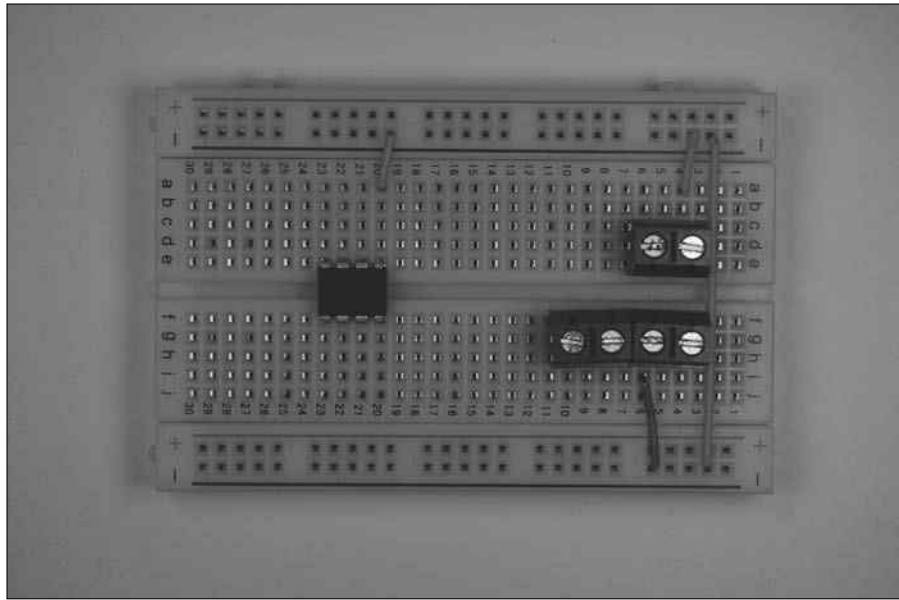

Figure 9-8:
2. **Insert wires to connect the IC and the terminal blocks to the ground bus (marked with a – sign on this breadboard) and insert a wire between the two ground buses to connect them to each other, as shown in Figure 9-8.**